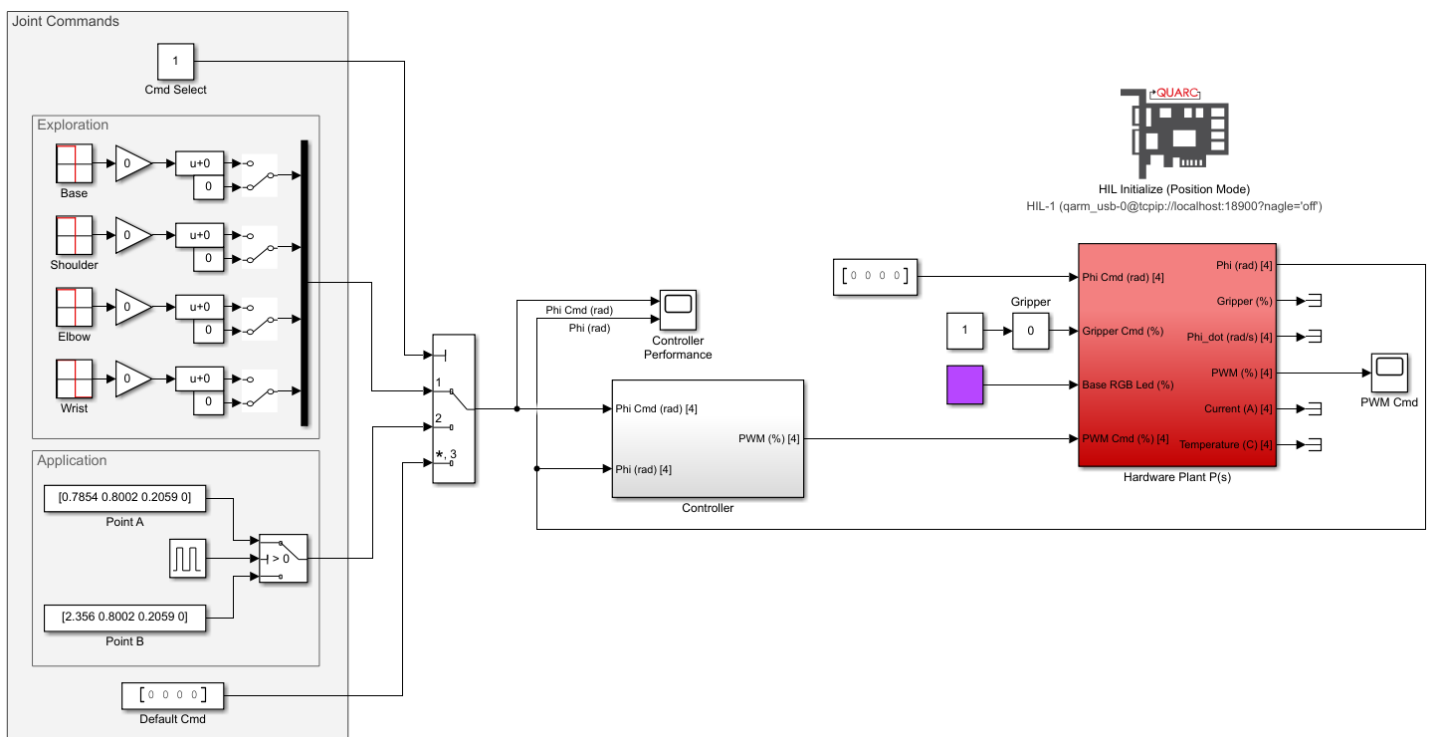

Figure 1: Simulink model that controls the QArm in PWM Mode.
1. Open the Simulink model LowLevelControlPWMMODE.slx (Figure 1). For this section of the lab you will use the switches and gains in the Exploration Box to select the setpoints for the base, shoulder, elbow and wrist motors. With varying setpoints, you will tune the proportional, integral, and derivative (PID) terms of the joint controllers to examine their effect on performance characteristics mentioned in the Concept Review.